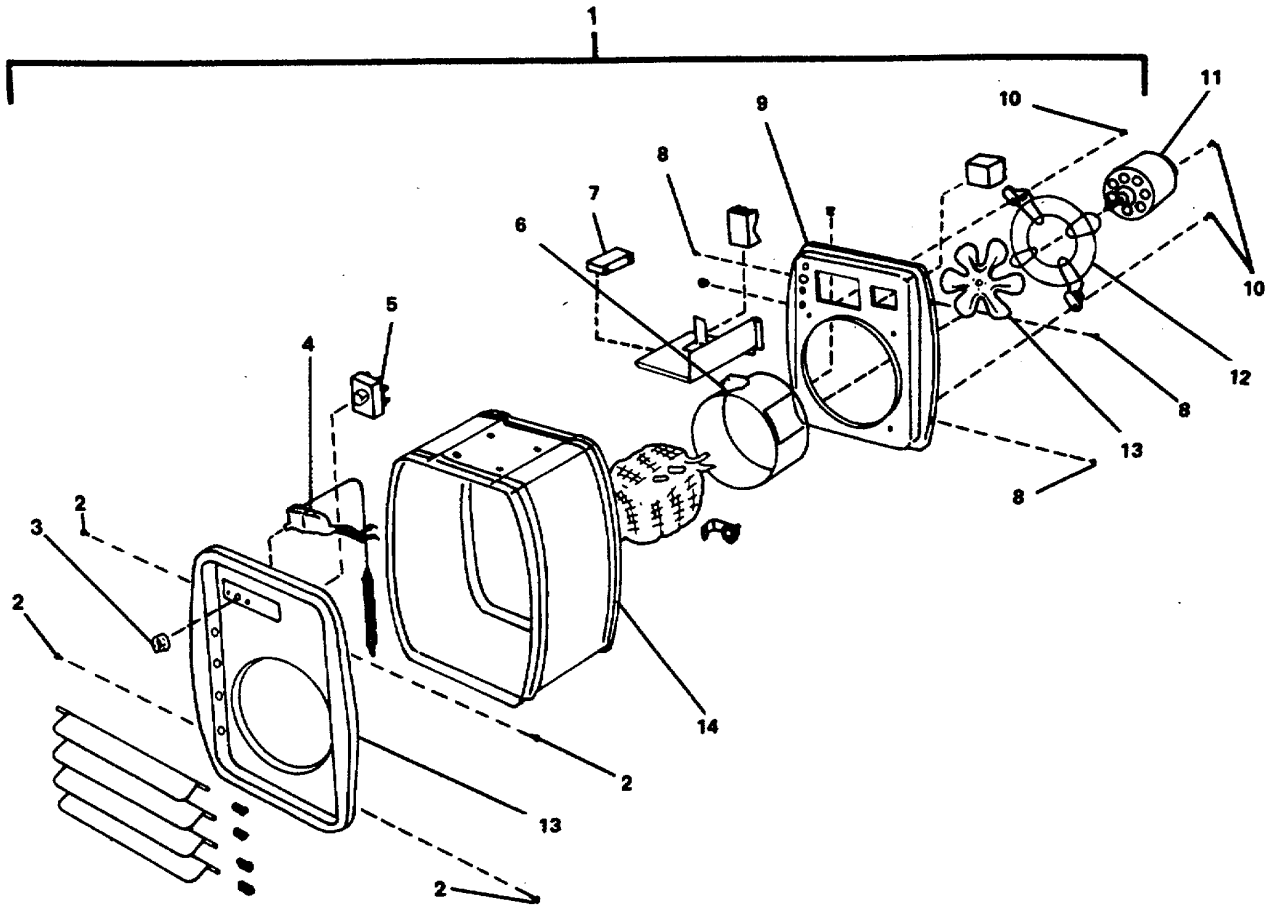

Figure 2-12. Electrical Space Heater (Units #1. #2. #4. #9. #10. and #11).
- l. Secure line connections to heating element (4) with terminal washers (5) and nuts (6).
- m. Close heater front cover (7).
- (1) Unlock power panel and switch circuit breaker ON.
- (2) Refer to TM 55-1905-223-10 for details on control settings.
- (3) Remove "Out of Service - Do Not Operate" tag from circuit breaker.
**2-22. Repair Heater, Space, Electric (Units #1, #2, #4, #9, #10, and #11). (FIGURE 2-12)****This task covers:****a. Repair****INITIAL SETUP:**Tools